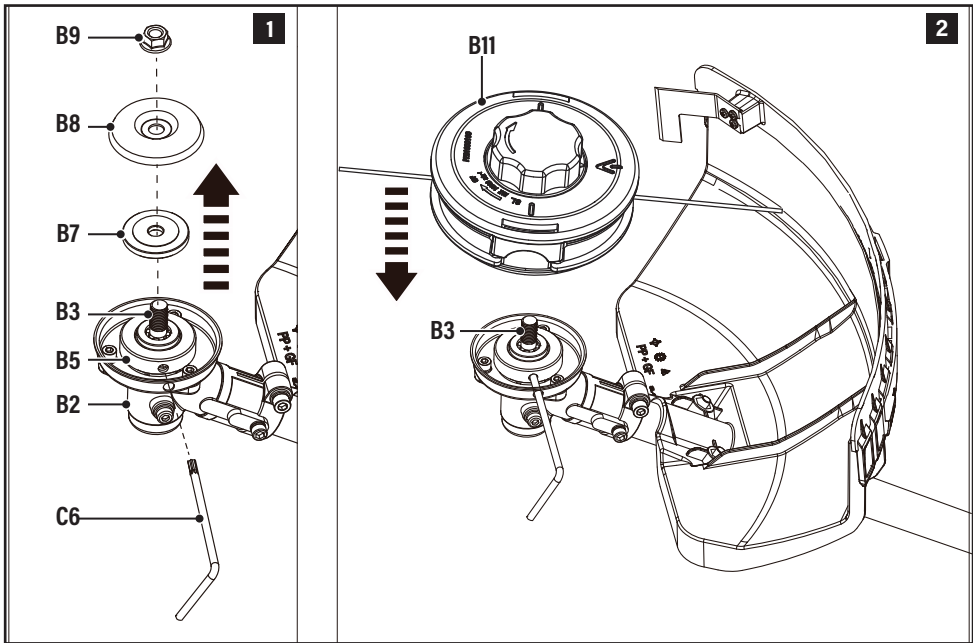

Fig. 4
4. Insert the multi-tool 1 (C6) into the hole to lock the rotation of the backing flange (B5) (Fig.4, step 1).
6. Remove the securing nut (B9), the front flange (B8) and the locking flange (B7) from the gear head (B2) (Fig.4, step 1).
7. Rotate the string trimmer head (B11) onto the spindle (B3) in anti-clockwise direction (Fig. 4, step 2).